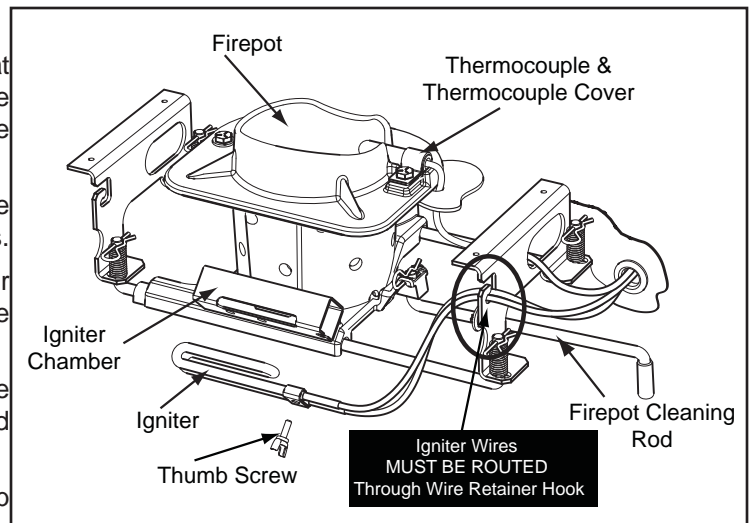

Figure 21.1
3. Install new igniter into the chamber and tighten thumb screw. The wires **MUST** route through the wire retainer hook and then re-connect the wires to the 2 leads with the spade connectors. **Figure 21.1.**